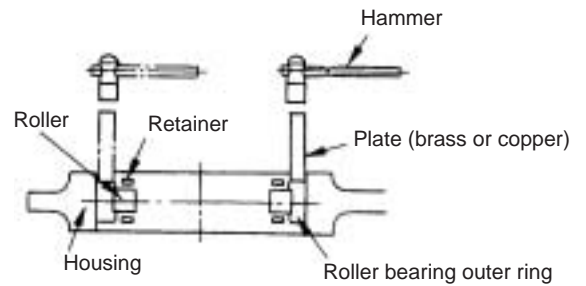

Fig. 11 Removal of roller bearing outer ring
- (1) The pliers is used for removing the C-type snap ring and the puller for removing the slinger and bearing.
- (2) For the roller bearing, apply a brass or copper plate to the outer ring and alternately hit it at diagonal positions on the circumference with a hammer to remove it from the shield. (Fig. 11)